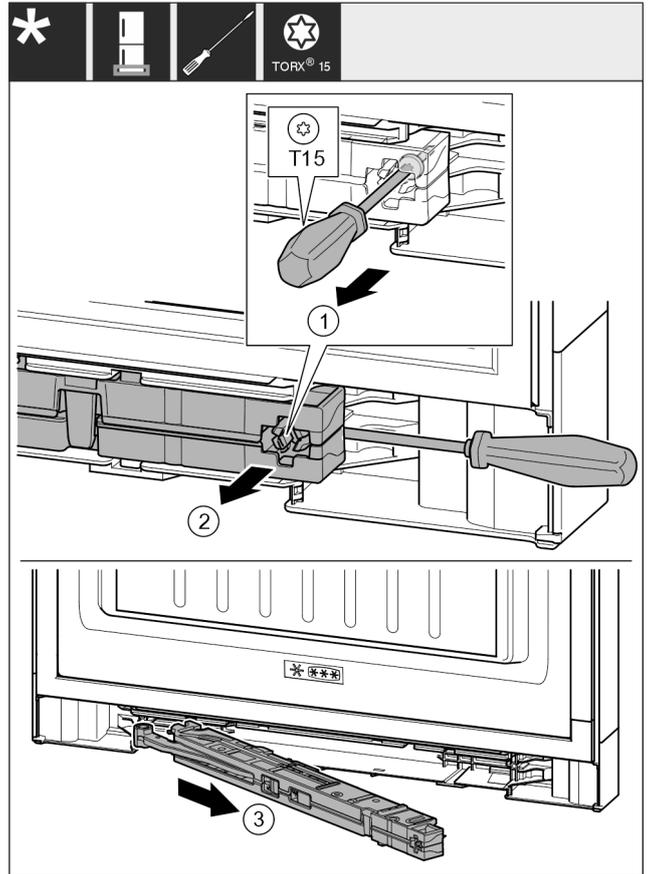

Fig. 20
- ▶ Use screwdriver to loosen the screw Fig. 20 (1) on the closing damper unit by 14 mm.
- ▶ Lever the closing damper unit Fig. 20 (2) forwards on the handle side using a screwdriver.
- ▶ Pull out the closing damper unit Fig. 20 (3).